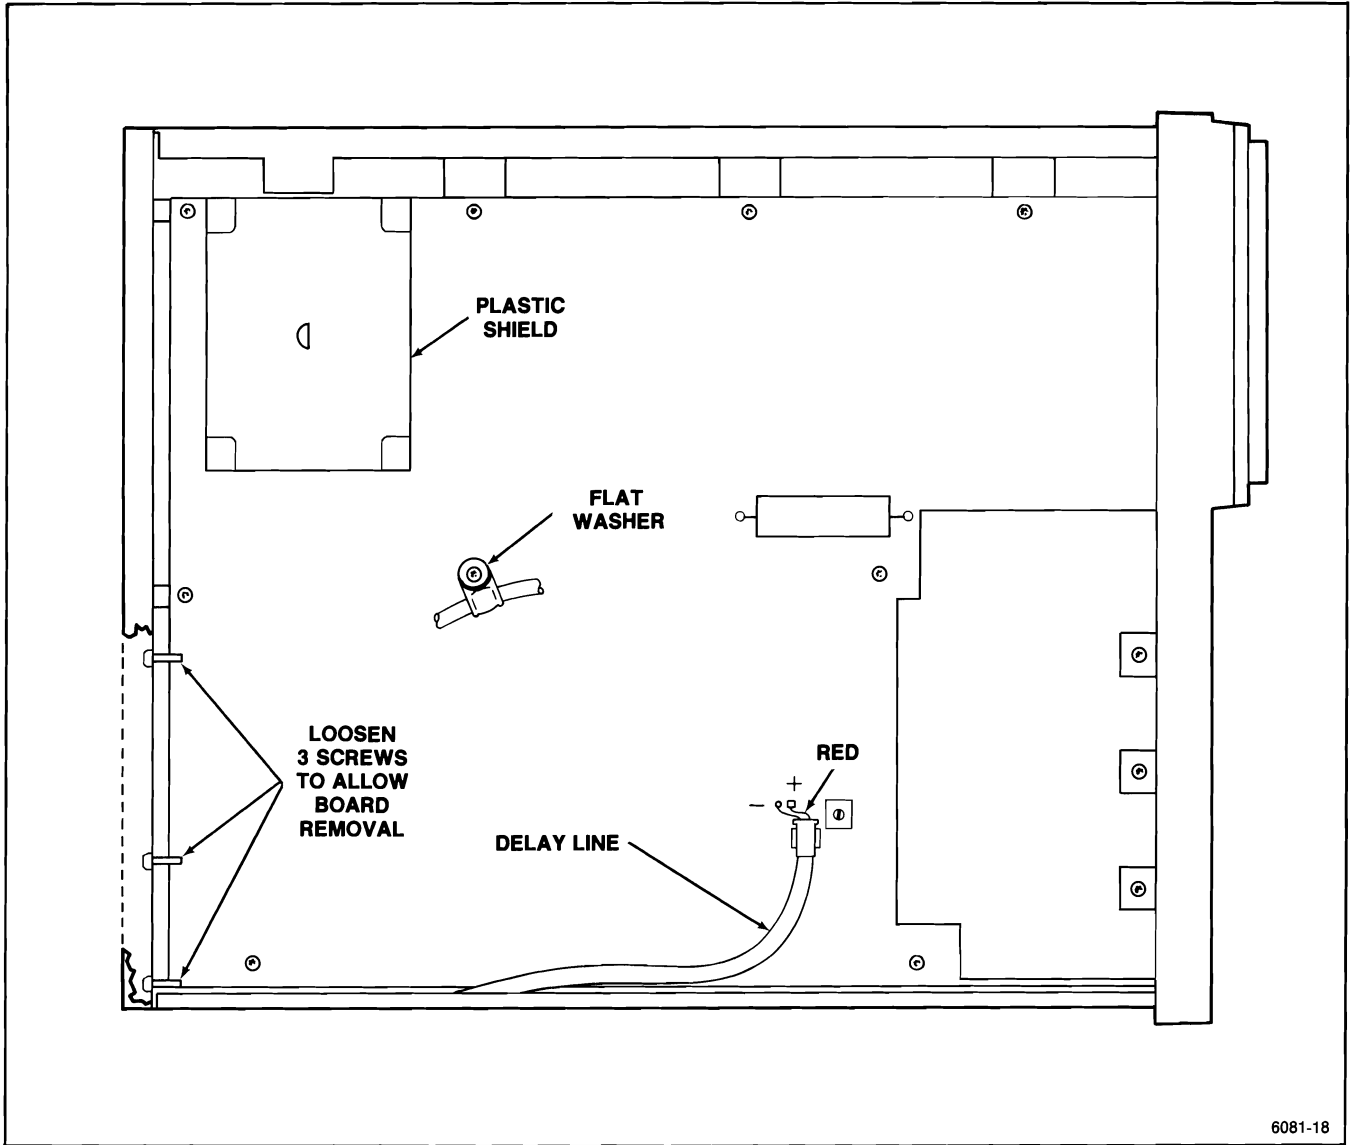

Figure 6-3. Main board removal.
8. Remove the top and bottom attenuator shields. The bottom shield is held with 5 screws and the top shield is held with one remaining screw. See Figure 6-3.
9. Unsolder the main delay-line wires from both sides of board (see Figures 6-3 and 6-4).
11. Remove the ten screws that hold the Main board to the chassis. Back out the three screws going through the rear panel enough to allow removal of Main board. See Figure 6-3.
17. Secure the Main board with ten screws. See Figure 6-3.
18. Solder both ends of delay line to Main board. Be sure to observe the polarity of the leads. See Figures 6-3 and 6-4. Press the ends of delay line into the clips on board.